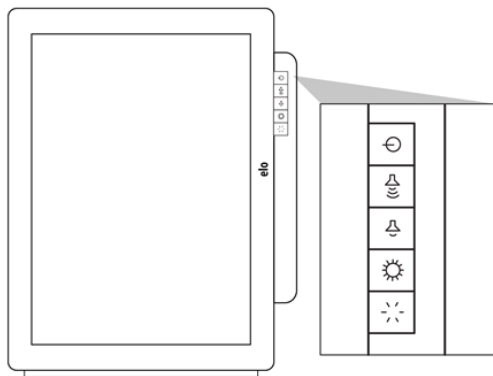

Figure 6-3. Control panel—Elo X Series
3. On the computer control panel, simultaneously press the Brightness Up and Brightness Down buttons for three seconds until the OSD LOCK message appears on the screen (Figure 6-3).